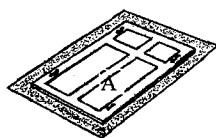

Figure 1
2. Put the face frame (A) face down on a flat soft working surface (Figure 1).